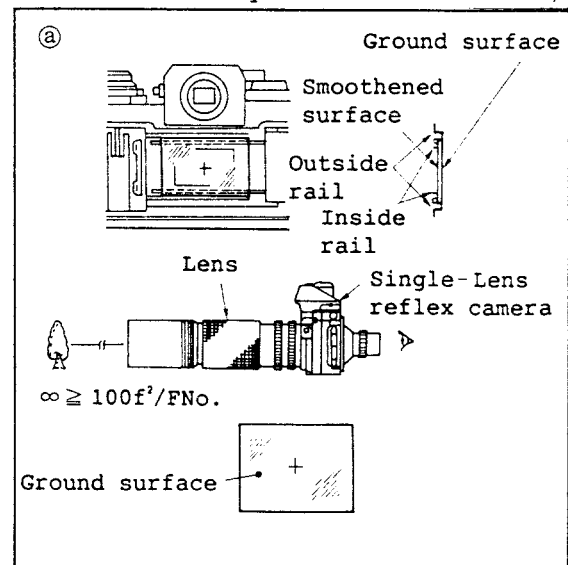

Fig. II-34
- (1) Open the aperture of single-lens reflex camera fully. Then, open the rear lid.
- (2) Secure the ground glass to the inside rail face by pressing it. At this step, the ground surface should face the lens side.
- (3) Shoot a scene at infinity. To check if it is in best focus, enlarge the image on the ground glass by a magnifier.
*Note: Distance for infinity:See the Fig. II-34.
- (4) After the above checking, remove the ground glass once and mark crosshairlines on it. Then, attach it to the camera again.